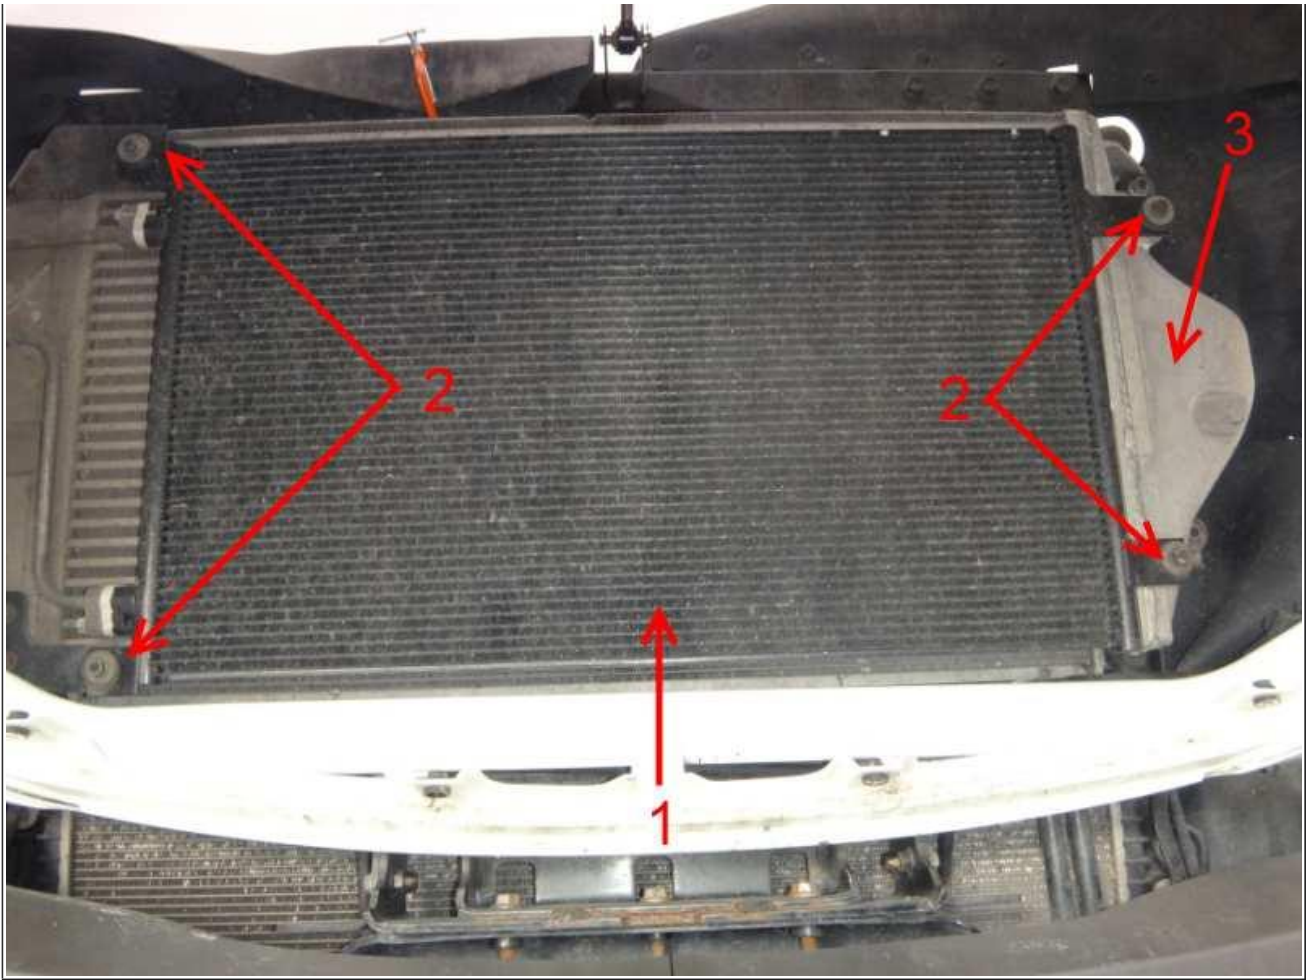

Figure 5: A/C Condenser Mounting
15. Remove the four nuts and washers securing the A/C condenser to the HP CAC (**Figure 5**, Item 2).